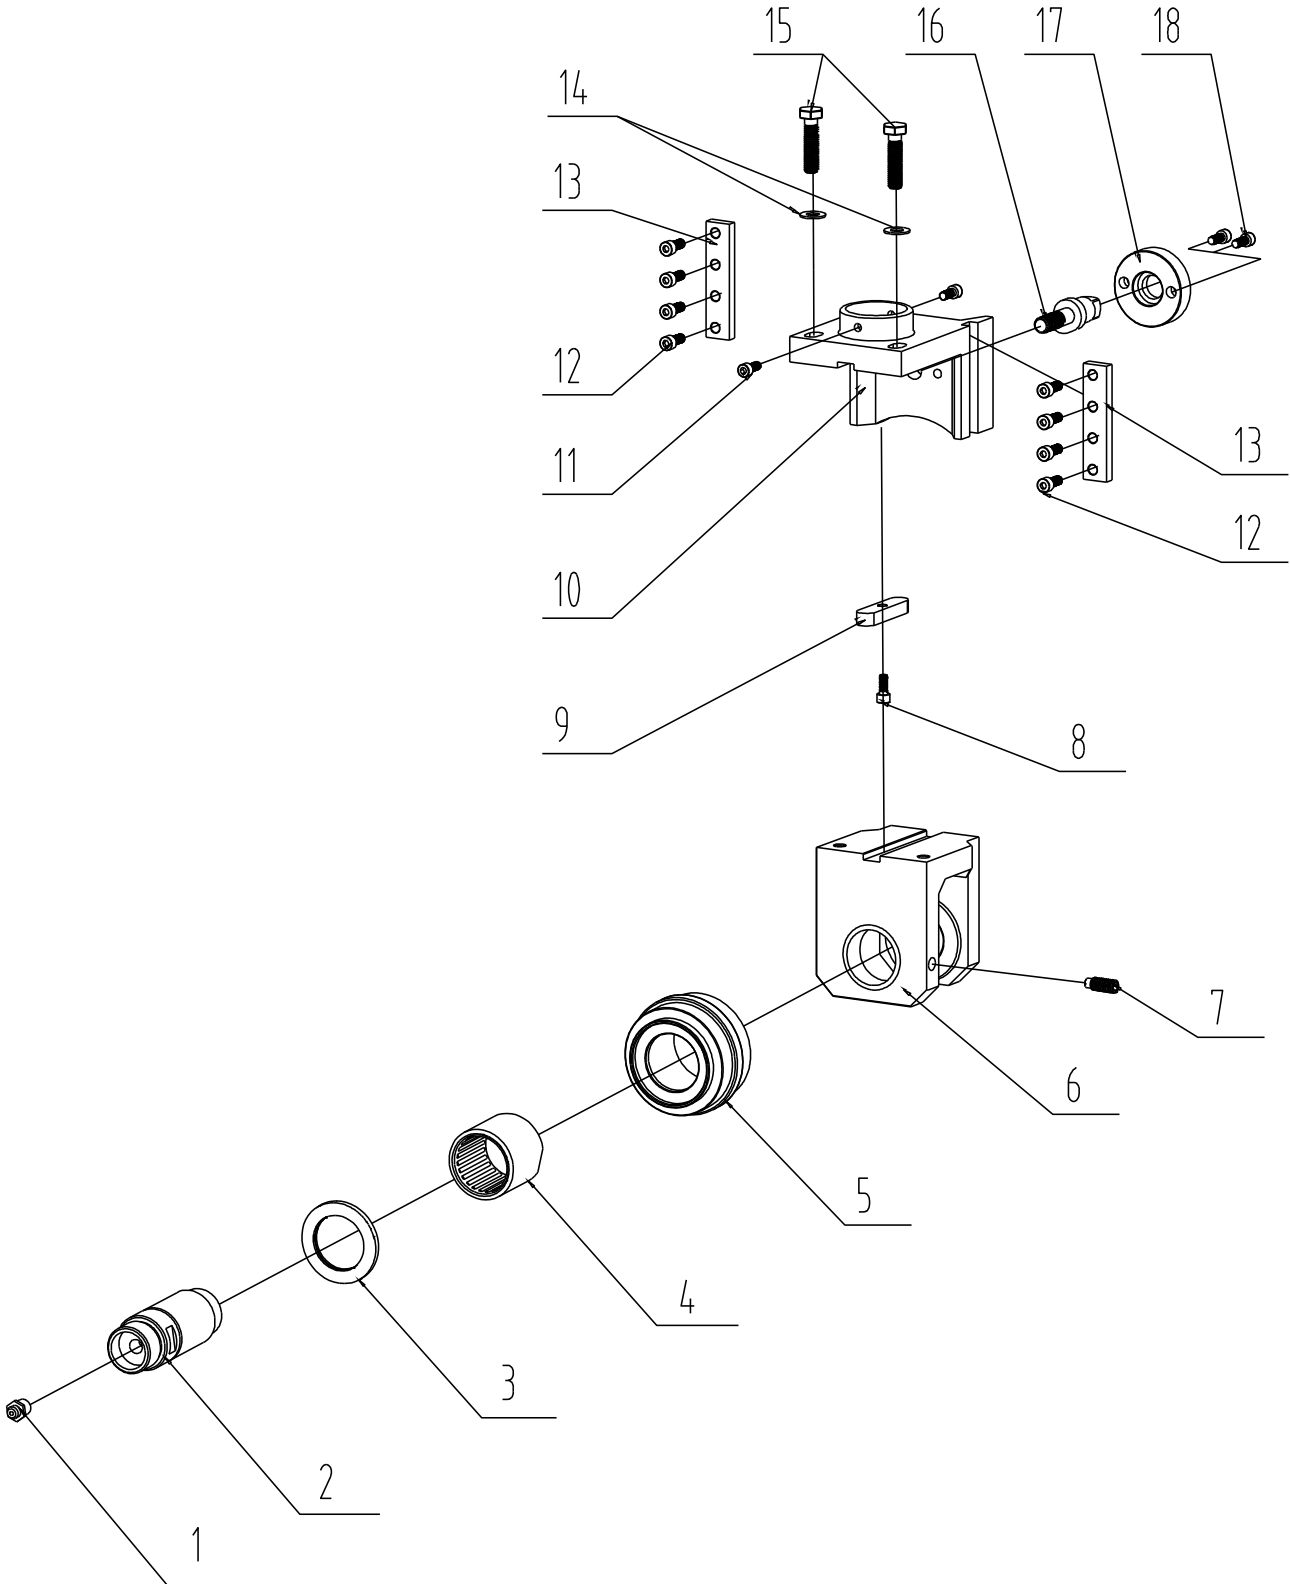

Figure 13
2. Pinch roller frame assembly (Figure 13) parts list